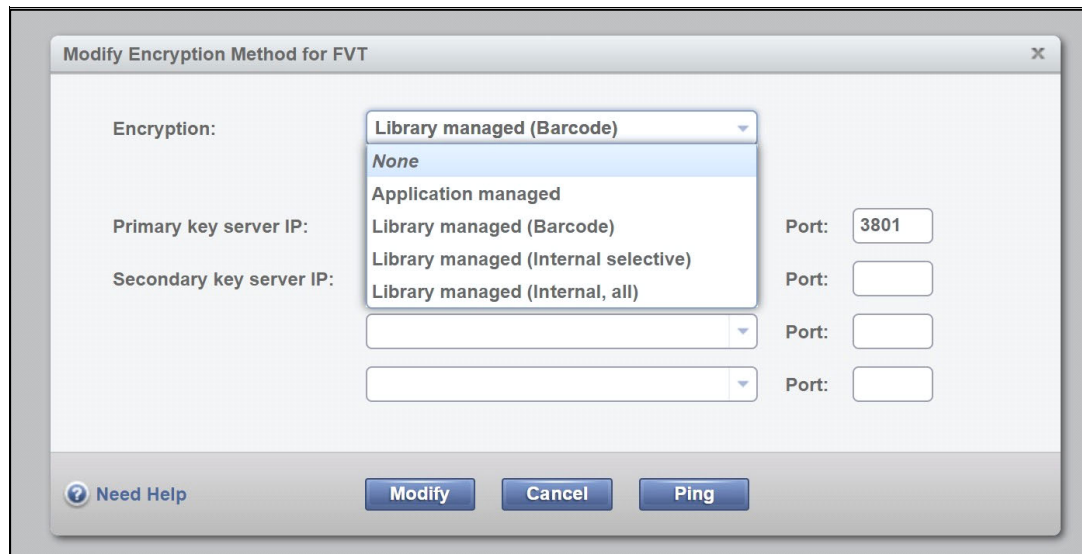

Figure 4-3 Modify Encryption Method window
3. Choose a method from the Encryption menu on the Modify Encryption Method window and click **Modify**, as shown in Figure 4-3 on page 56.